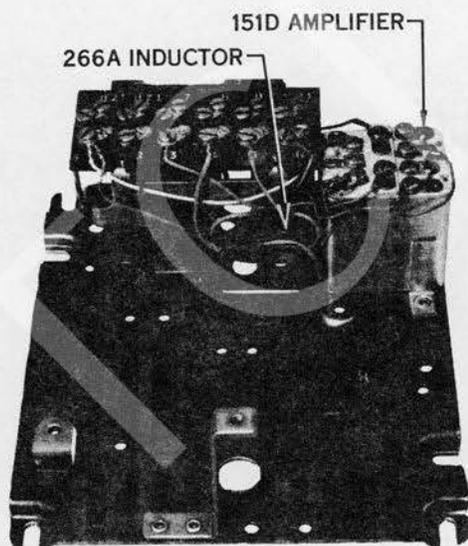

Fig. 10 - 687D Subscriber Set, Internal View
- (c) 687D: Provides transmitter amplification for head telephone sets when used with a 685C subscriber set in 2- and 4- wire services (Fig. 10).